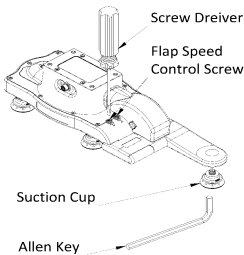

Figure 9: Flap Speed Control Screws and Suction cup replacement
For cases/cartons of varying thickness, the flap speed needs to be changed such that for thinner cases, the closing speed is slower. Both the opening and closing speeds can be controlled individually. Figure 9
The suction cups of casemagiQ are part of the consumables list that will get damaged due to wear and tear over time. Hence, it is important to regularly check them and replace them. As shown in Figure 9, use standard Hex key to easily unscrew the suction cups and replace them.
- 5. Quarterly, check all suction cups for damage and replace them, if need be, as shown in Figure 9